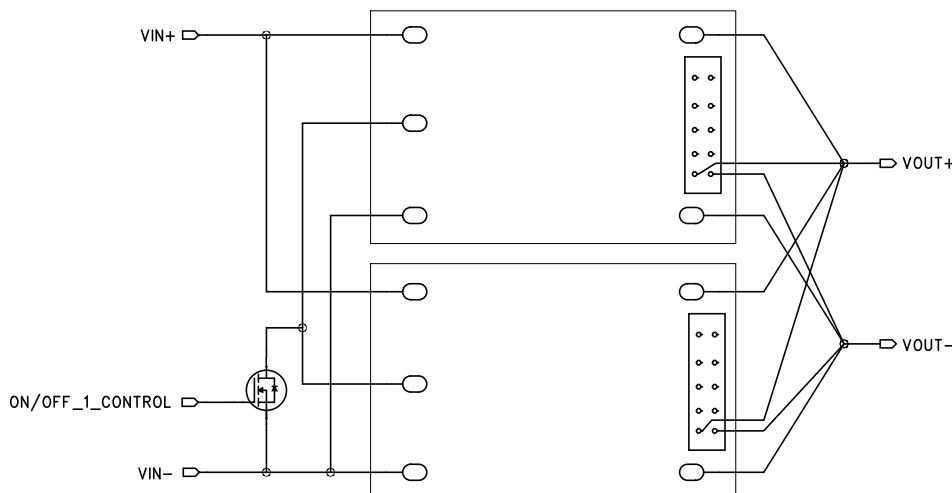

Figure 3. Load Sharing Block Diagram
Two or more converters may be connected in parallel at both the input and output terminals to support higher output current (total power, see figure 3) or to improve reliability due to the reduced stress that results when the modules are operating below their rated limits. For applications requiring current share, followed the guidelines below. The products have a pre-configured voltage droop. The stated output voltage set point is at no load. The output voltage will decrease when the load current is increased. The voltage will drop 0.35V while load reaches max load. Our goal is to have each converter contribute nearly identical current into the output load under all input, environmental and load conditions.
- +Vout and –Vout of all parallel units should be connected with a balance output impedance; +Sense and –Sense should be connected together (see figure 3).